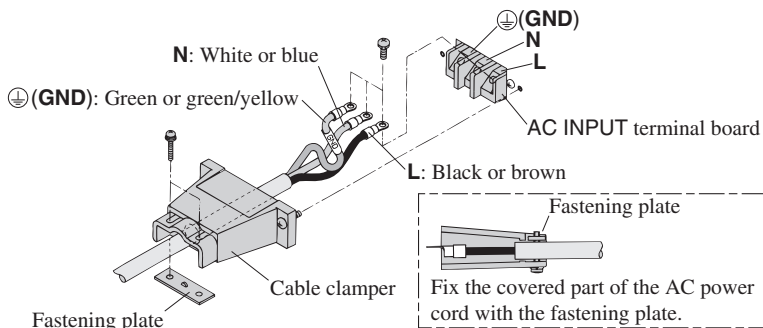

Fig.1-4 Connection of the AC power cord on the unit side
3. Connect the provided AC power cord to the AC INPUT terminal board as shown in Fig.1-4.